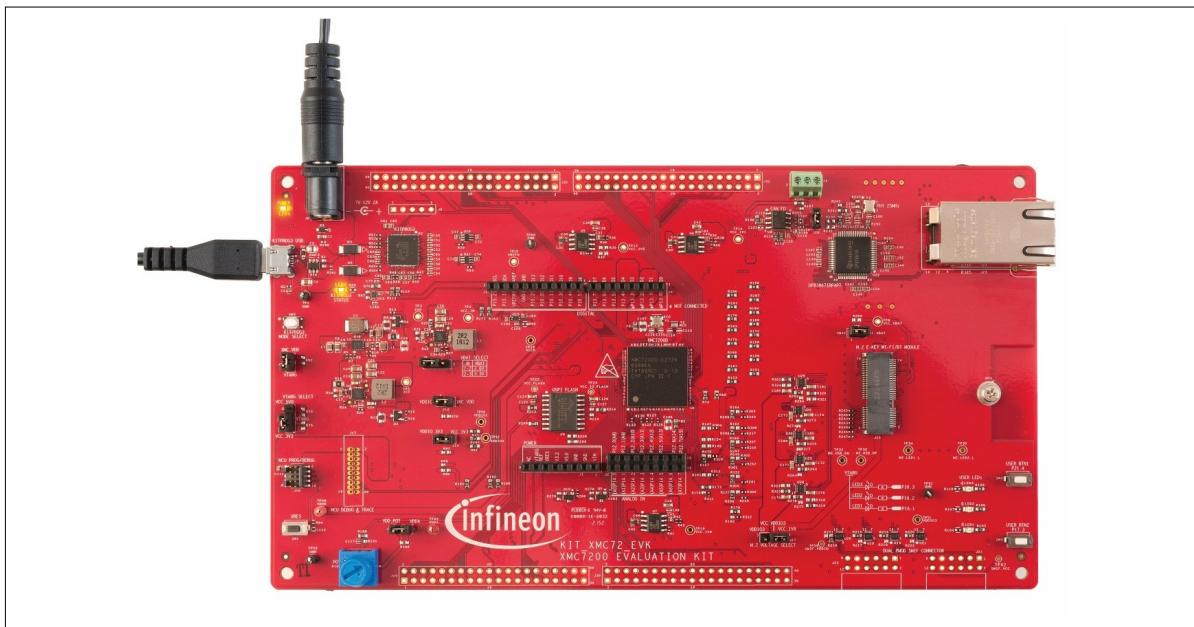

Figure 8 Connect USB cable to USB connector on the board
1. Connect the board to the PC using the provided USB cable through the KitProg3 USB connector, as shown in Figure 8. It enumerates as a USB composite device if you are connecting it to your PC for the first time